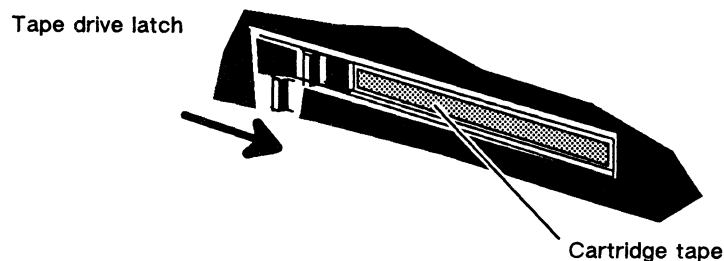

Figure 5-2 Securing the Cartridge Tape Latch
2. Push the tape cartridge entirely into the drive until the cartridge settles, and then slide the drive latch to the right to secure the cartridge tape in the drive. See Figure 5-2.